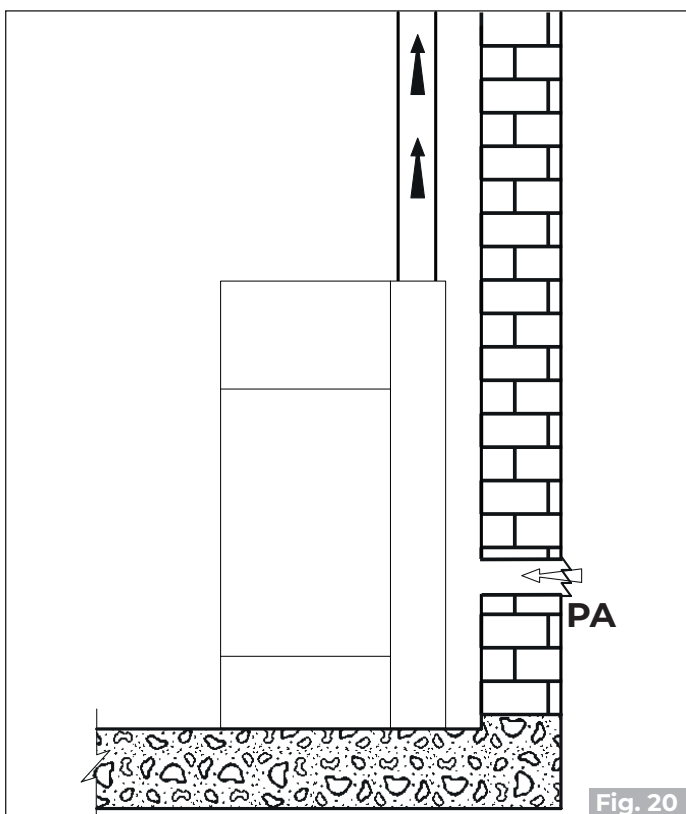
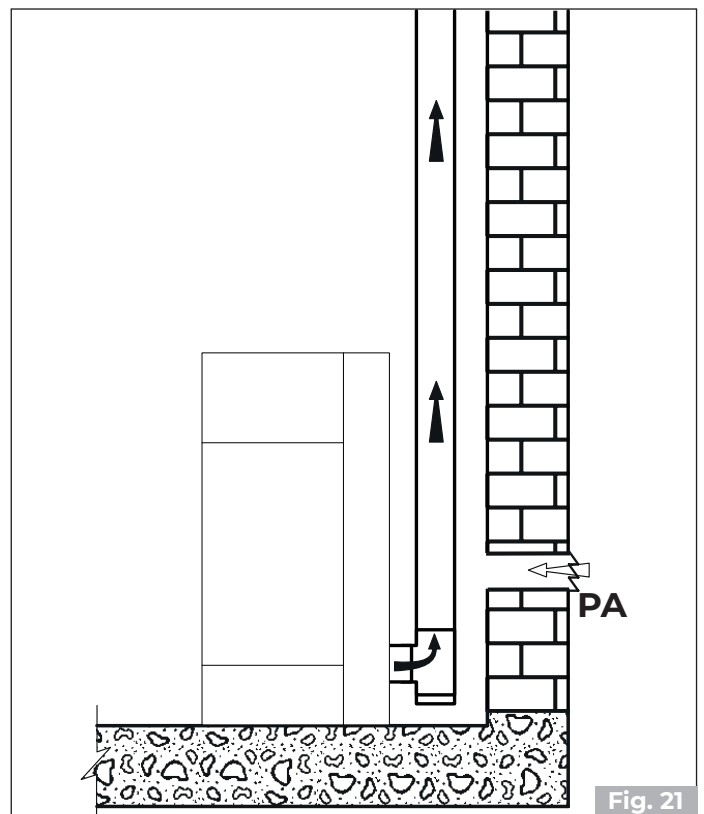

Fig. 20
Fig. 21
- it can come from the installation room or suitable adjacent rooms (**Fig. 20 - Fig. 21**)
Create the air intake on the wall (Fig. 20 and Fig. 21 - PA = Air Intake), and leave the appliance to withdraw the room air, making sure to connect the section of corrugated pipe on the air inlet pipe, if supplied, fixing it with the strap and folding it slightly downwards to prevent any resonance effects.